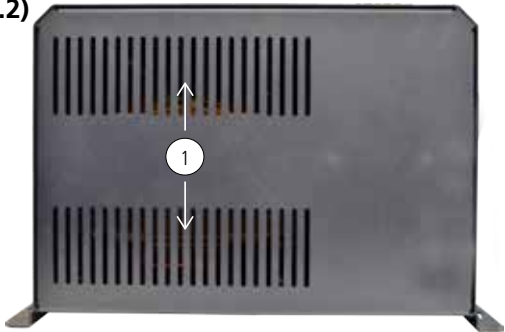

Fig 2.2 Layout-Back
2.2 MAIN UNIT: LAYOUT-BACK (FIG 2.2)